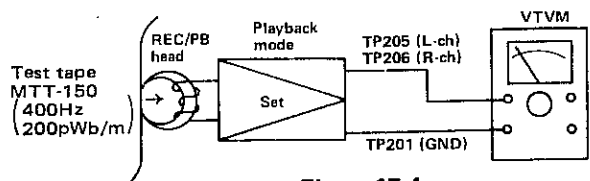

Figure 17-4
- Make connection of instruments as shown in Fig. 17-4, and adjust variable resistor VR201 or VR202 so that the playback sensitivity is as shown in Table 17-3.